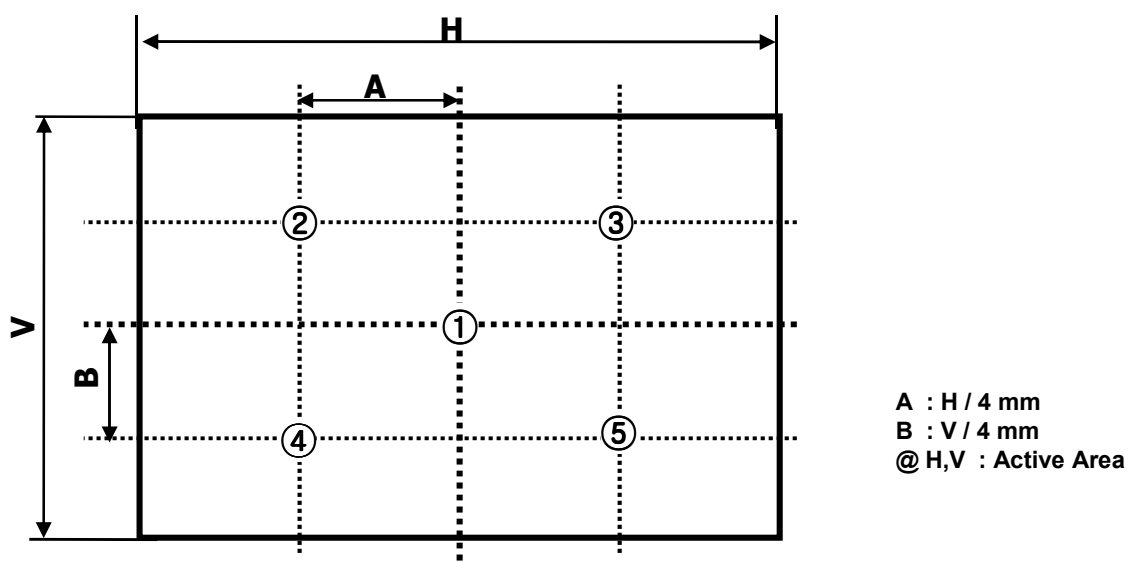

FIG. 10 5 Points for Luminance Measure
2. Surface luminance are determined after the unit has been 'ON' and 1 Hour after lighting the backlight in a dark environment at $25 \pm 2^\circ\text{C}$. Surface luminance is the luminance value at center 1-point across the LCD surface 50cm from the surface with all pixels displaying white. For more information see the FIG. 10.
For more information, see the FIG. 10.